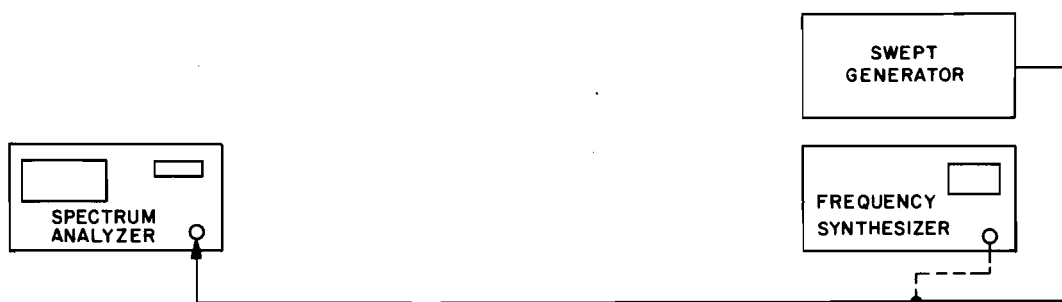

Figure 4-6. Scan Width Accuracy Test Set-Up
1. Connect the test equipment as shown in Figure 4-6 using the swept generator.
10. Connect the test equipment as shown in Figure 4-6 using the frequency synthesizer.